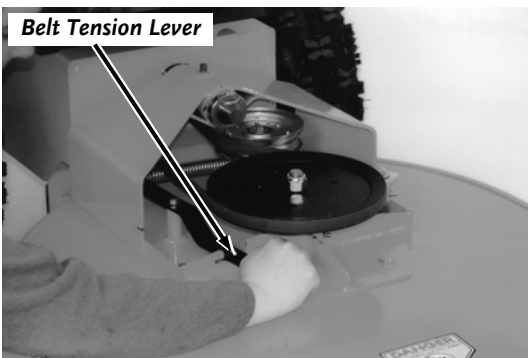

Figure 32
2. Release the Belt Tension Lever (**Figure 32**).